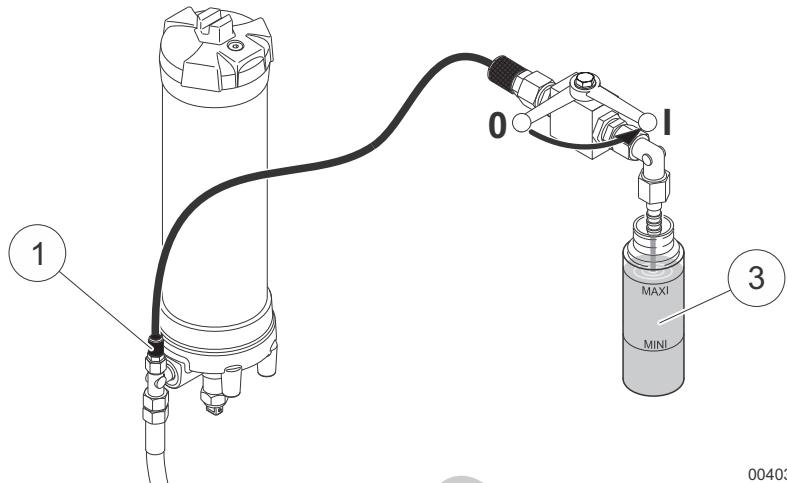

Fig. 5 Taking hydraulic oil sample
| 7 | Open a new, clean sample container (3) in Fig. 5 and fill it to the MAX mark with hydraulic oil. Make sure the sample container or closure do not become contaminated. |
| 10 | Cover the measurement connection (1) in Fig. 5 with the protective cap. |